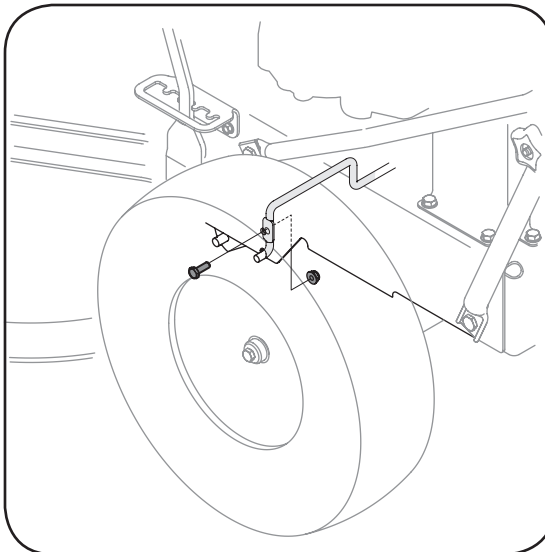

Figure 5-15: Loosen the belt keeper rod.
4. Loosen the bolt and nut holding the belt keeper rod to the frame, Figure 5-15.